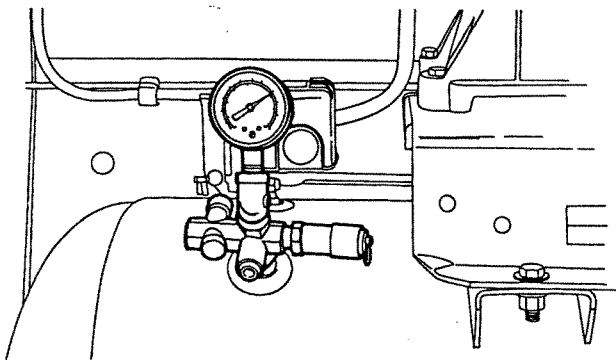

Figure 4-10. Air Compressor Pressure Gage
3. Check pressure gage at compressor to be sure pressure is between 90 and 120 PSI (Figure 4-10).
1. Open discharge valve at compressor discharge and start compressor at controller. Check pressure gage for 90 to 120 PSI reading (Figure 4-10).
2. Run compressor until gage (Figure 4-10) reads 90 to 120 PSI.